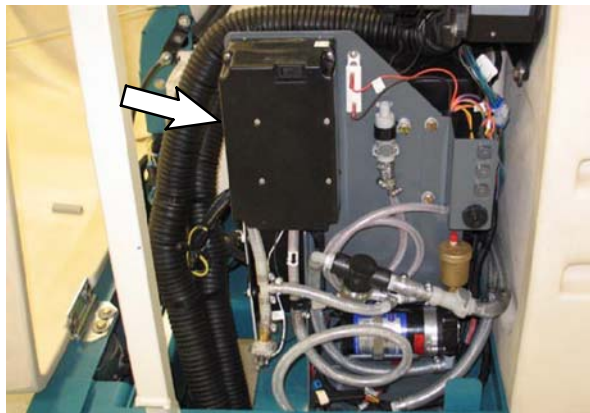

FIG. 14
24. Set the *ec-H2O* assembly into the machine and tighten the three M6 X 1.25 SEMS screws installed in the previous step. Refer to Fig. 14.